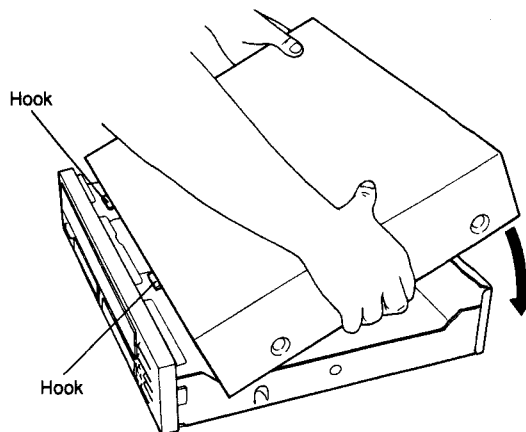

Fig. 5
- a. Fit the hooks of the Top Cover (at its front) between the front panel and sub-panel as shown in Fig. 5.
- b. Pull the bottom edges of the Top Cover toward outside with both hands and lower it as shown in Fig. 5.